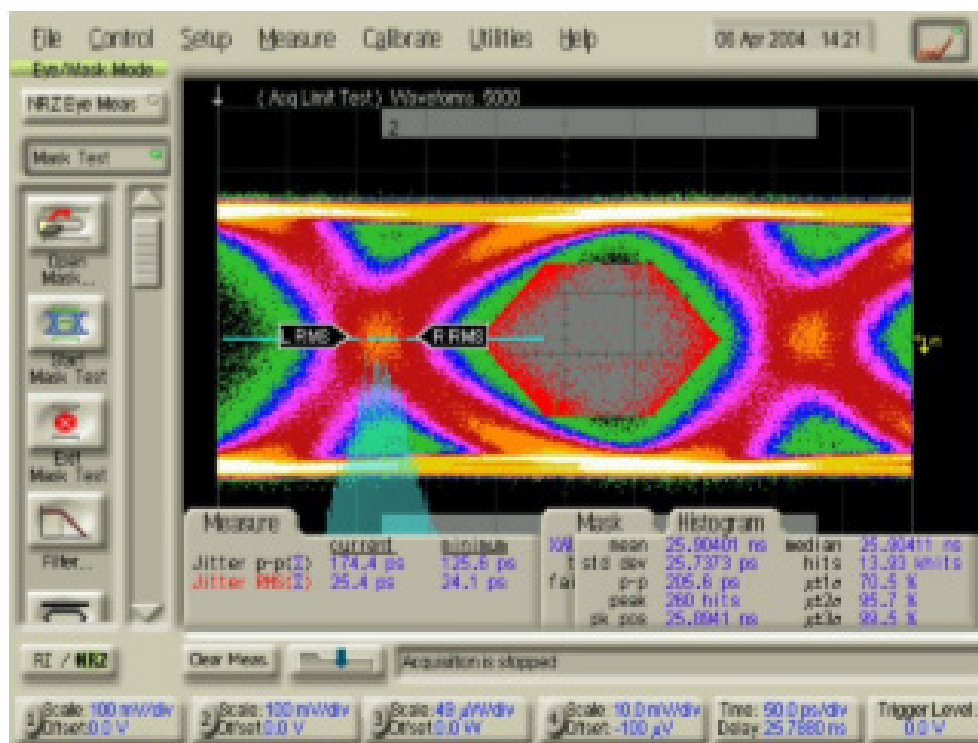

Figure 5. 3.125 Gb/S Serdes Output with Ferrite Bead in Power Lead
Figure 5 shows the output waveform of a 3.125 GB/S serial link with a ferrite bead in the power lead of the output stage.
The circuit for Figure 5 was recommended by the supplier of the part, without first checking to see if the advice was sound. The waveforms shown were actually taken from an evaluation board supplied by the vendor. In terms of blocking noise from the power subsystem, this became treating the symptom rather than solving the problem. The problem was that there was noise in the power subsystem because it was not designed correctly.
3. Can I be sure that the addition of the ferrite bead does not create a new problem (such as that shown in Figure 5)?